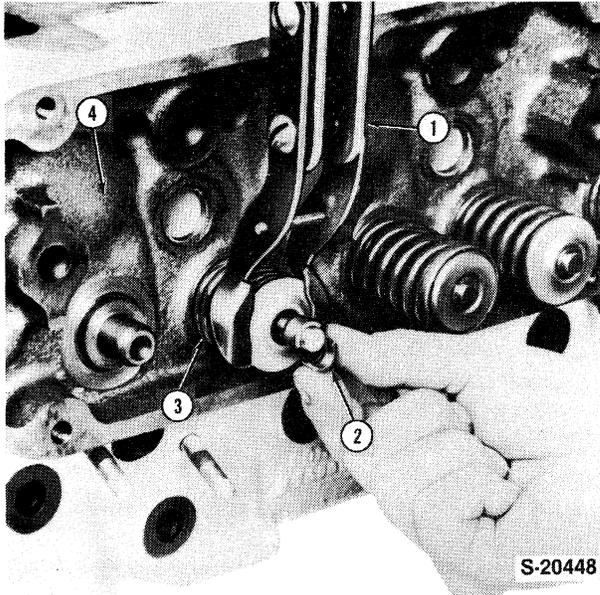
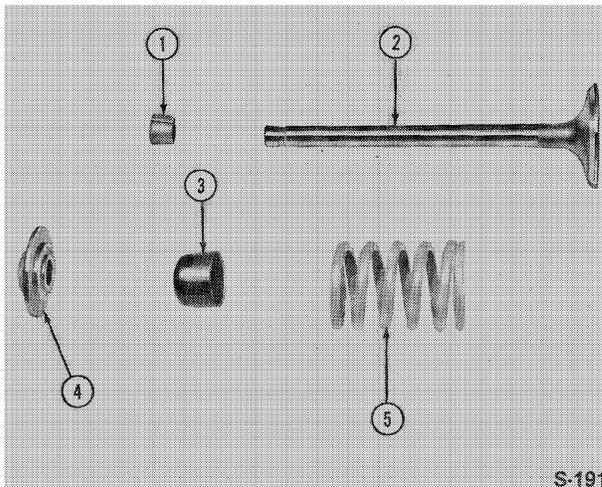

Figure 8
Figure 9
- Using a valve spring compressor, Figure 8, remove the retainer locks, spring retainers/rotators, springs and seals from each valve, Figures 9 and 10.